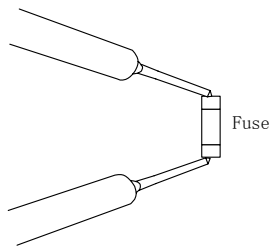

Fig. 2
- 2) Check for continuity by a multimeter as shown in Fig.2.